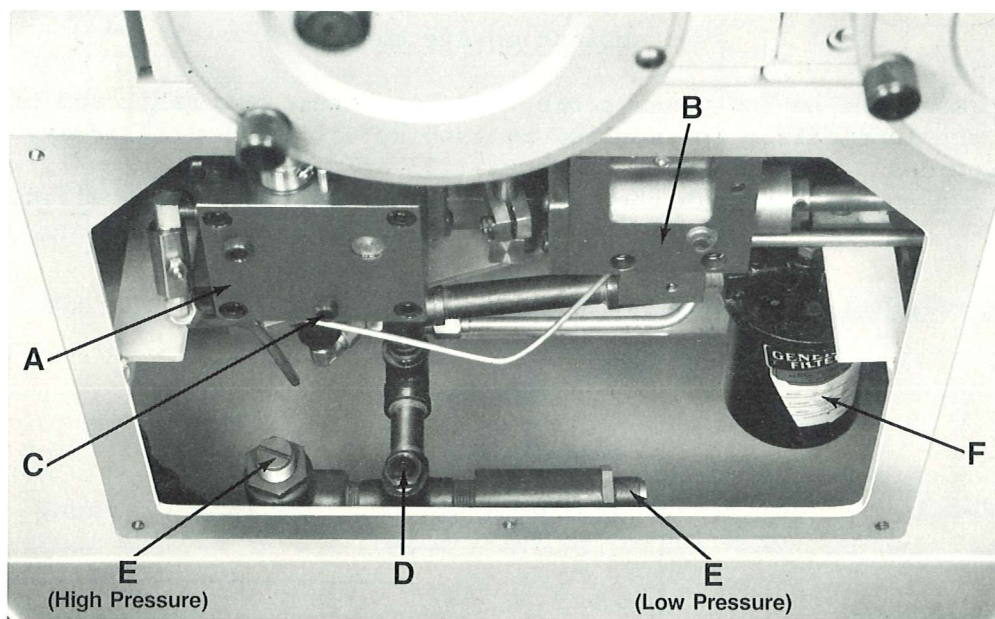

Fig. 3E. Hydraulic compartment as viewed from above.
Pressure Relief Valves: (Fig. 3E)
The oil, and the by-pass filter (F), Fig. 3E, should be changed annually (or even more frequently on machines in constant use). The oil can be removed from the reservoir through a flexible tube connected to the pump discharge and emptying into a suitable container outside the machine. Remove the drain plug to get out all the oil at the bottom of the reservoir, and when it is empty, wipe it out with a lint-free rag saturated with solvent.